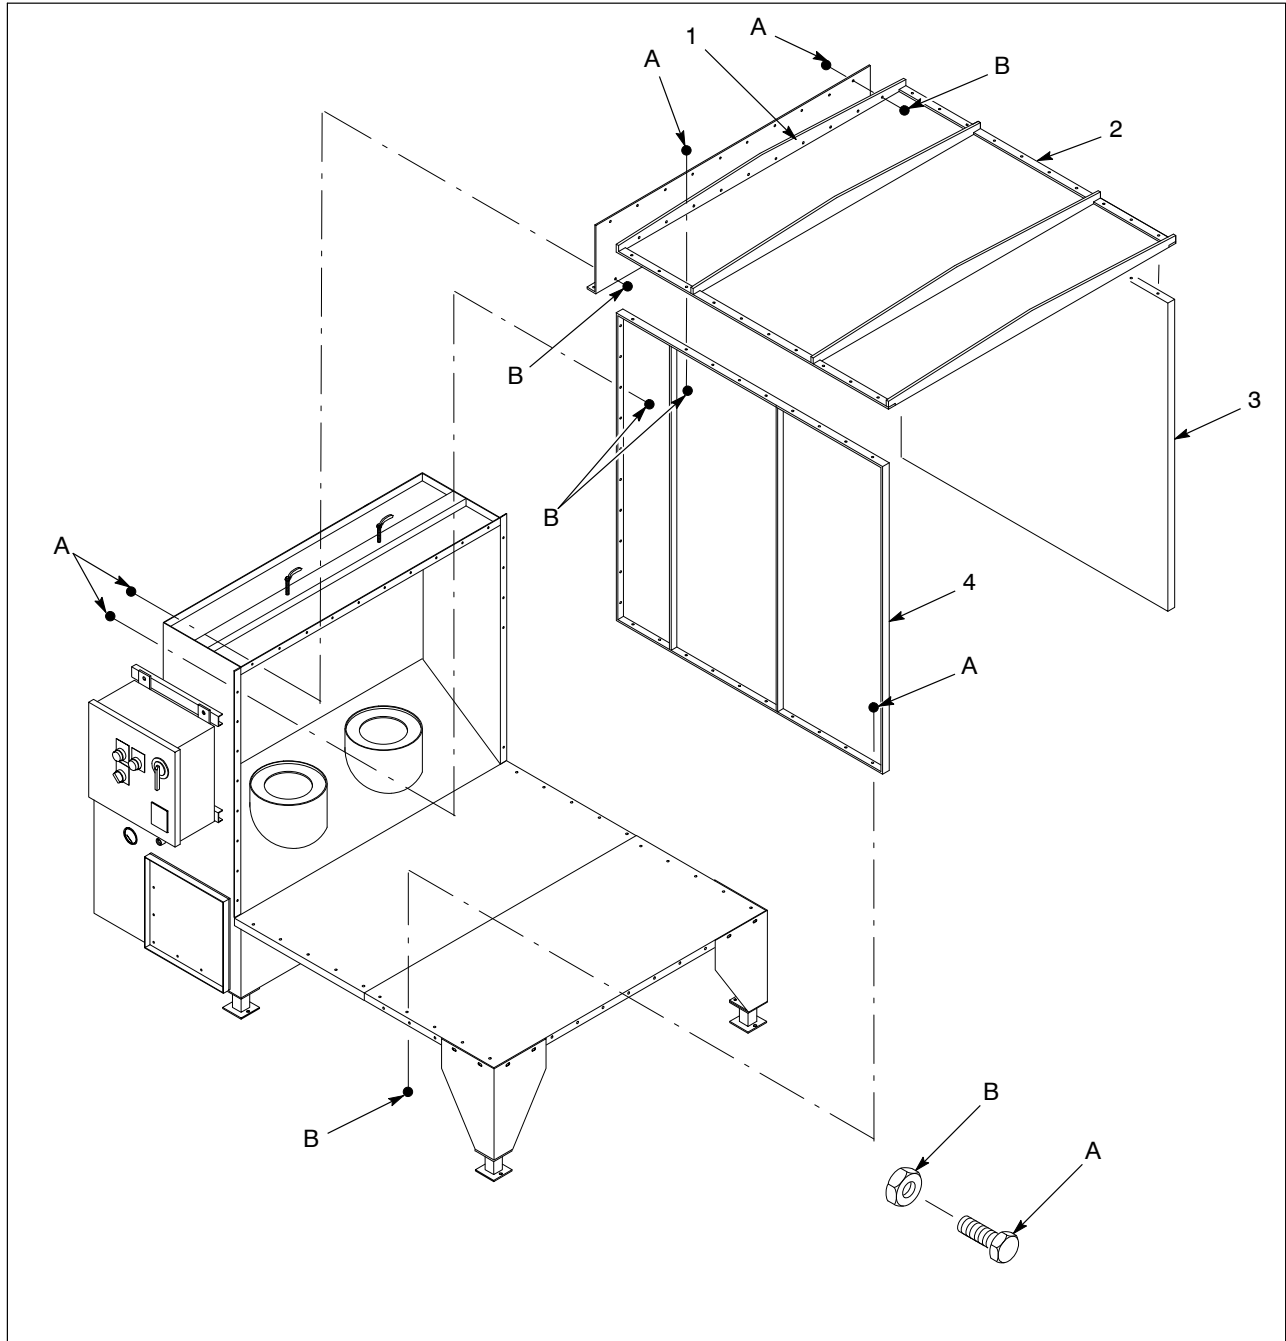

Figure 3-2 Polypropylene Enclosure Assembly
1. See Figure 3-2. Use the fasteners shown to bolt the side panels (3, 4) to the floor panels and to the collector module.
2. Bolt the back panel (1) to the side panels and to the collector module.
3. Bolt the roof panel (2) to the side panels.